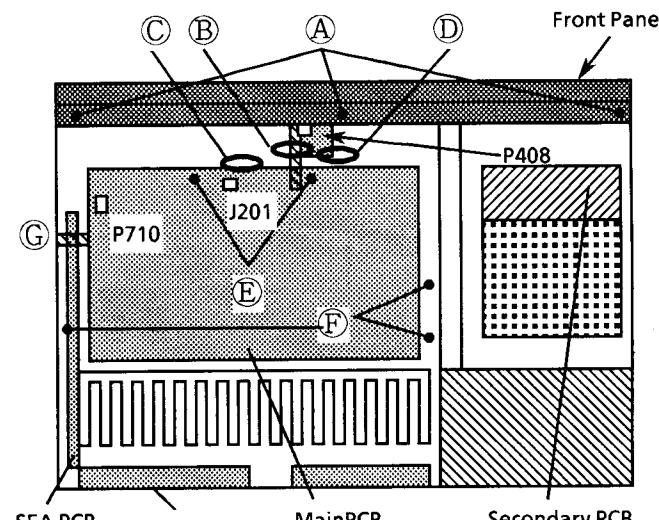

Fig 1. Top View
- 3) Cut the tie band Ⓑ and disconnect the connector P408(Fig.1), then remove the MASTER VOLUME knob.
- 1) Remove the 7 screws Ⓔ fastening the Input PCB and release the rebet ⑨ fastening the SEA PCB
- 2) Remove the connector P710(Fig.1).
- 3) Cut the Tie Band ⑭, ⑮ and ⑯.
- 4) Disconnect the connector P408(Fig.1) and P407(Fig.4).